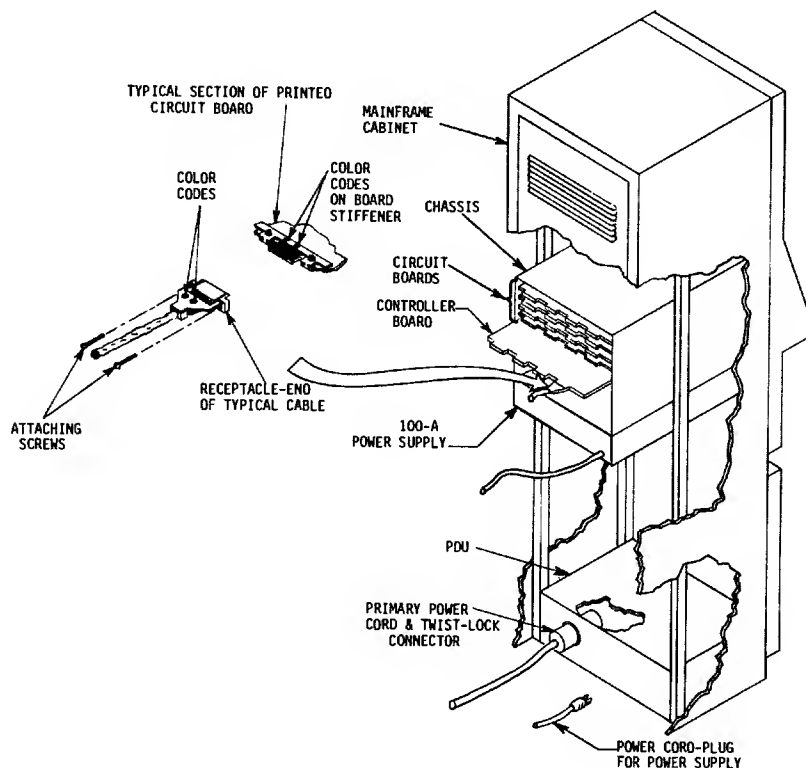

Figure 4-5. Cable Connections at Mainframe System
- Mate the receptacle-connector ends of cables with respective color-coded edge connectors on the printed-circuit boards as shown in Figure 4-5.